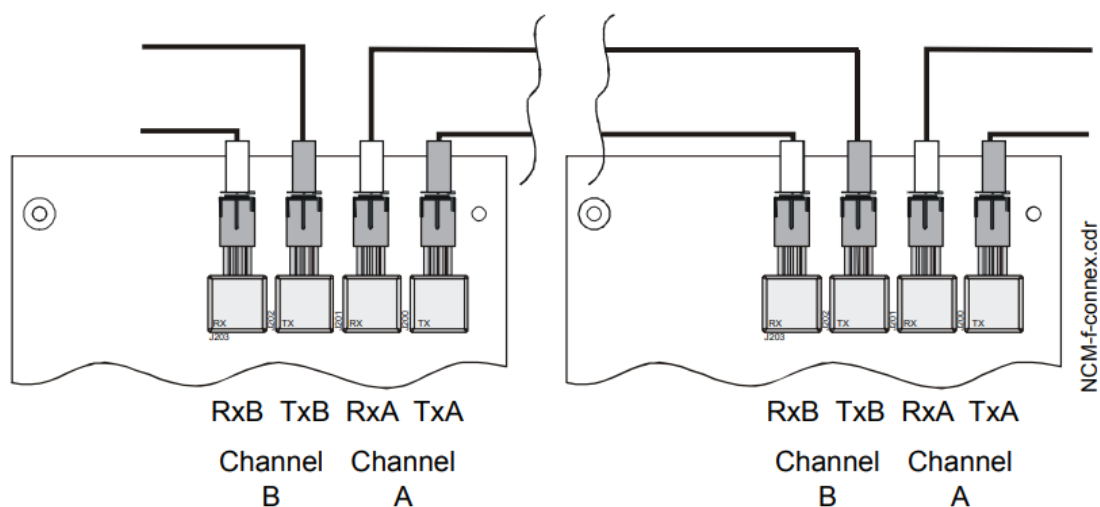

Figure 5 NCM-F Connection
When connecting consecutive nodes/repeaters, note that fiber cable must exit one board on transmit (TX) and enter the next node/repeater on receive (RX). Also, note that the fiber-optic pair (RX, TX) from port A of one Node/Repeater may be connected to either Port A or Port B of another node/repeater (refer to Figure 5). An NCM-F may be connected to any of the following devices: